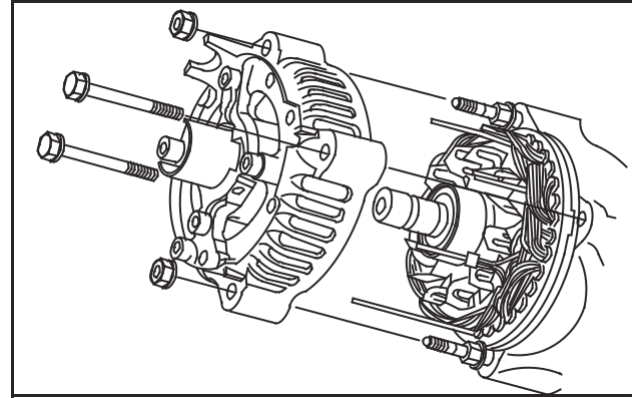

Fig. 38 – Assemble Housings
3. Assemble brush end housing to drive end housing with reference marks aligned, Fig. 38.